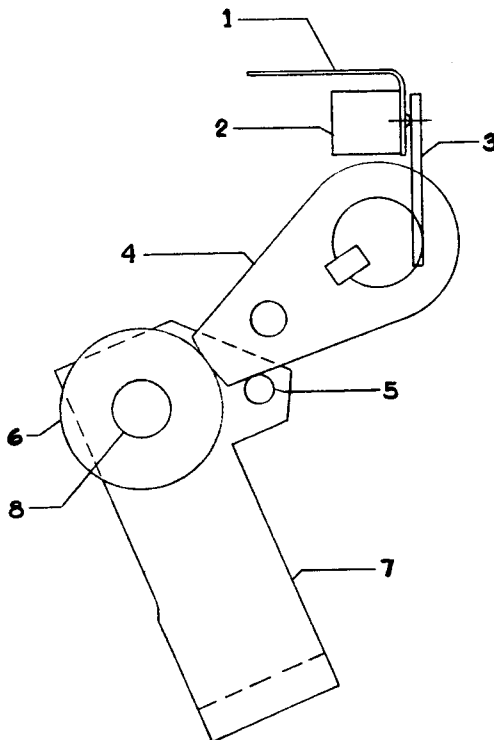

Figure 13. (0114C5320) Latch Checking Switch
Refer to Figure 13. Charge the closing springs sufficiently to reset the mechanism linkage. Rotate the trip latch (4) by pressing manual trip lever to open the latch checking switch (2). Allow the trip latch to reset slowly and determine the point at which the contacts are made by using a circuit continuity tester (light indicator, bell set, etc). The contacts of the latch checking switch should just make when the gap between the trip latch (4) and the stop pin (5) located on the latch roller link (7) is $1/16"$. There should be a minimum of $1/64"$ between the switch arm (3) and the switch support (1). To obtain adjustment of the latch checking switch, bend the latch checking switch arm (3).